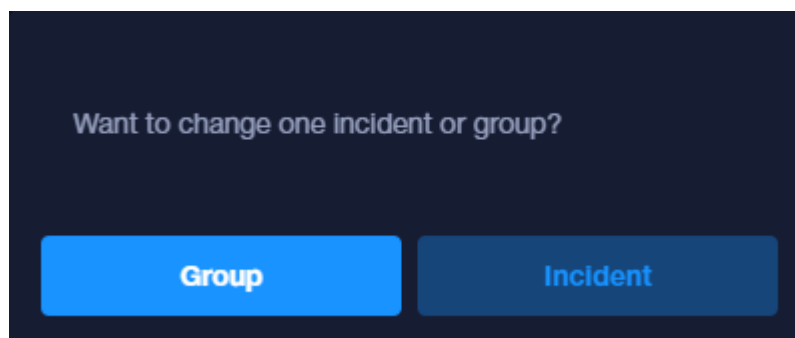

Figure 17. Response method selection window
2. In the opened window, select the response method: respond to the entire group or only to the selected incident (see Figure 17).